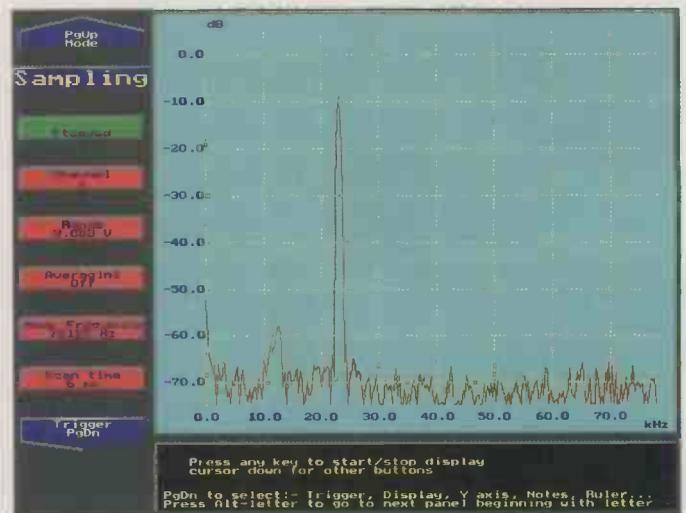

Fig. 2. PicoScope for dos operating in spectrum-analyser mode.
In spectrum analyser mode, Fig. 2, sample rates to 20Msample/s are available, user selectable frequency, volts or decibel scales and a number of sampling window types. The default window is the Blackman type. Six other window types are available, as is signal averaging to reduce the effect of noise on the display.
A 0.9Vrms test signal was used, enough to develop 100dBSPL at 1kHz and 0.4m, while representing only an 1/8th watt into the nominal 8Ω load, Fig. 2. The load included the associated, conventional two-way passive crossover. Inductors are air-cored, and capacitors are polypropylene types, expressly chosen by ex-Tannoy speaker designer, Mark Dodd, for low-hysteresis energy storage. My
**Fig. 2.** The test setup uses a standard DSP aided test using de facto standard equipment from Audio Precision. The signal is read at both ends of the cable by the AP's high common-mode rejecting receivers. The cables were hung uniformly in a widely spaced 'U' away from obvious E and H fields and ferro-metal objects. The drive-unit chosen for testing was a Tannoy 15in dual concentric in a medium sized vented cabinet – a half-way house if there is one, between the extremes of professional and domestic speaker designs.
Fig. 2. Aavid's proprietary thermal and fluid flow simulation programs – shown here modelling an electronic assembly without thermal management, top, and the same electronic assembly after Aavid's optimised thermal solution, bottom – predict local surface temperatures and heat transfer coefficients. Graphic and tabular outputs from these programs allow engineers to optimise heatsink design and thermal solution sizing.